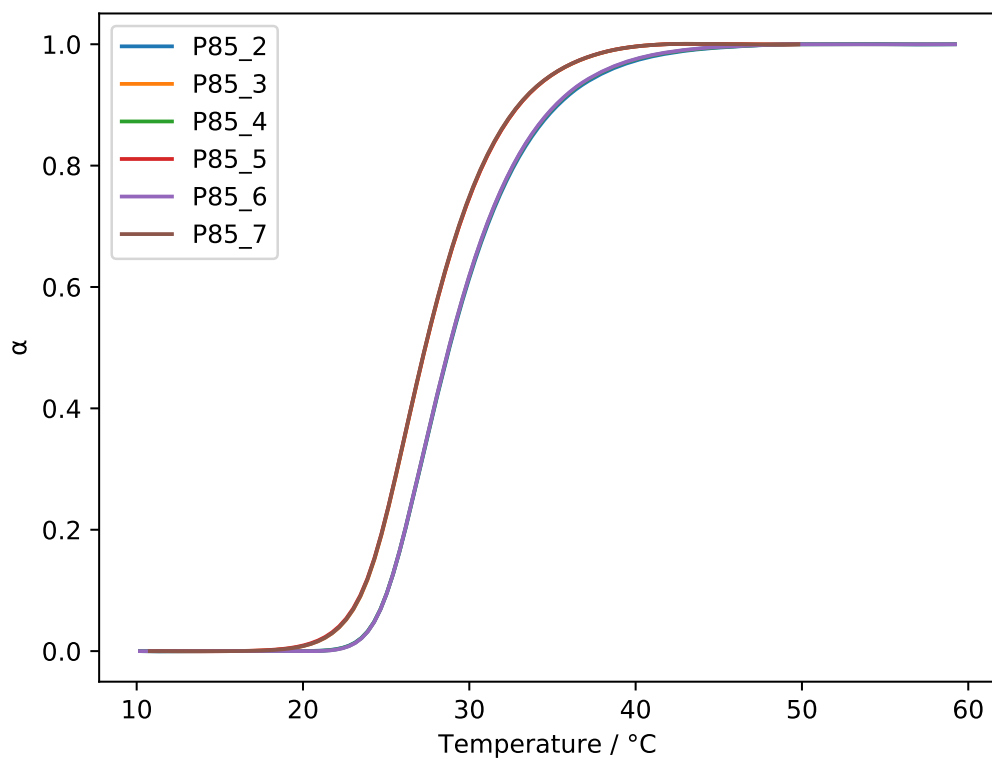

Figure 6: alpha.pdf shows the degree of conversion determined for each sample run, as a function of temperature.
2. The final heat capacity `CP-baseline / [J/K/g]` or `CP-baseline / [J/K/mol]`, corresponding to the corrected data subtracted by the baseline (the ones displayed in Fig. 6), in J/K/g or in J/K/mol if the molecular weight is given in the input files.